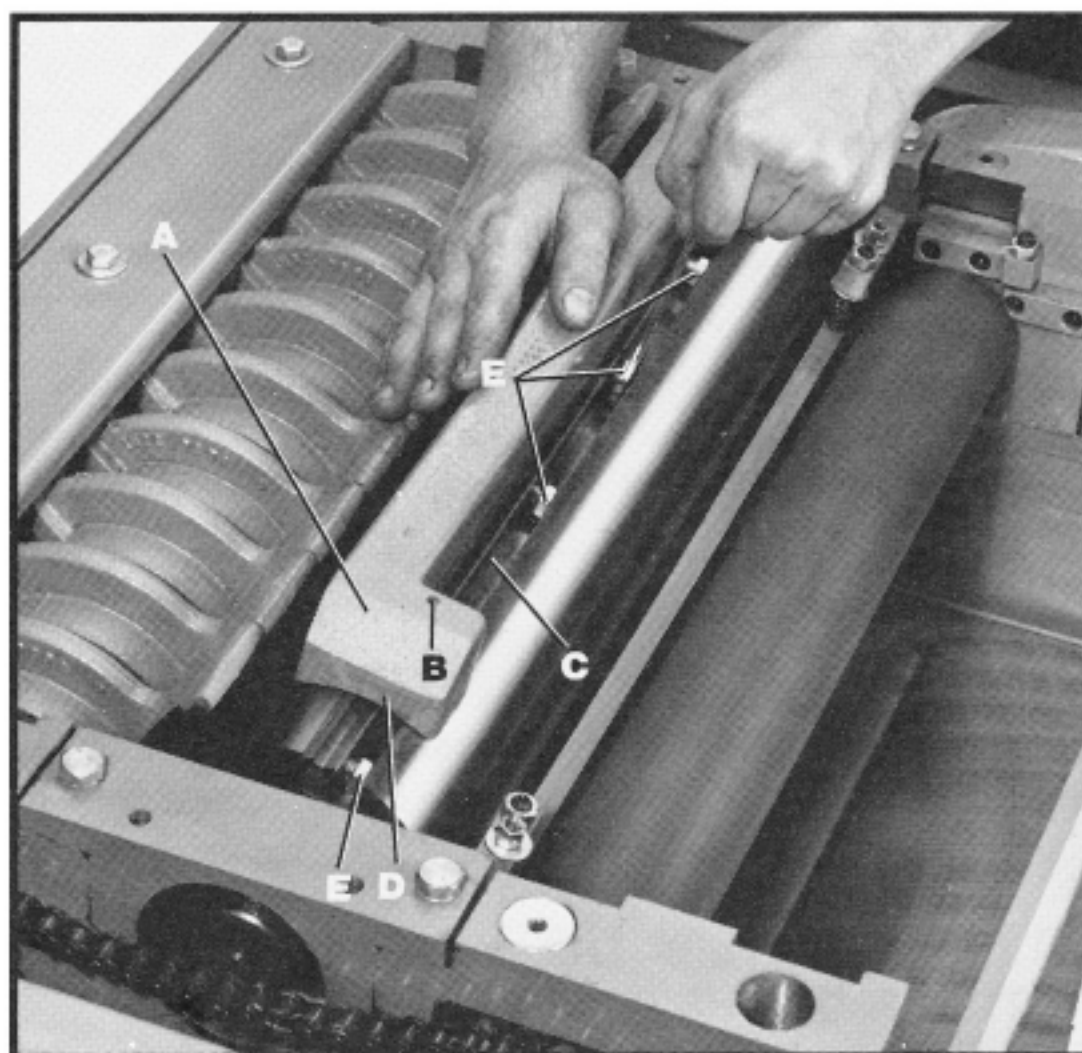

Fig. 21
- A. Check all four knives for proper setting using the knife gage (A), as shown in Fig. 21. When the gage (A) is placed on the cutterhead and the bottom of the two roll pins, one of which is shown at (B), are against the edge of the slot (C) opposite the knife, the knife should just contact the bottom of the gage (D).
- B. If any of the knives require an adjustment, slightly loosen the knife locking bar of each of the four knives by turning the knife locking screws, four of which are shown at (E) Fig. 21, into the locking bar just enough to relieve stress in the cutterhead but not disturb the setting of the four knives.
- C. To adjust the knife that must be reset, loosen all of that knife's locking screws (E) Fig. 21, by turning them into the locking bar. As the knife locking bar becomes loose, lifter springs under the knife will raise the knife until it contacts the bottom of the gage (D). Then snug up the knife locking bar by lightly backing out the locking screws (E) against the knife slot. **IMPORTANT: AT THIS TIME, ONLY TIGHTEN THE KNIFE INTO THE SLOT ENOUGH TO HOLD IT IN POSITION.**
- E. After all four knives are set with the screws just snug, back out and tighten the locking screws, four of which are shown at (E) Fig. 21, against the slot. Start with the end screws first and proceed on alternate sides toward the center screws until the knife is securely held in the cutterhead. Tighten the remaining three knives in the same manner.
- A. To remove each knife, loosen the knife locking bar, by turning the locking screws, four of which are shown at (E) Fig. 21, into the knife locking bar and remove the locking bar, knife and springs located under the knife.
- E. Insert springs, knives and knife locking bars into all four slots in the cutterhead. Push knives down as far as possible and back out locking screws, four of which are shown at (E) Fig. 21, just enough to hold all four knives in the cutterhead.